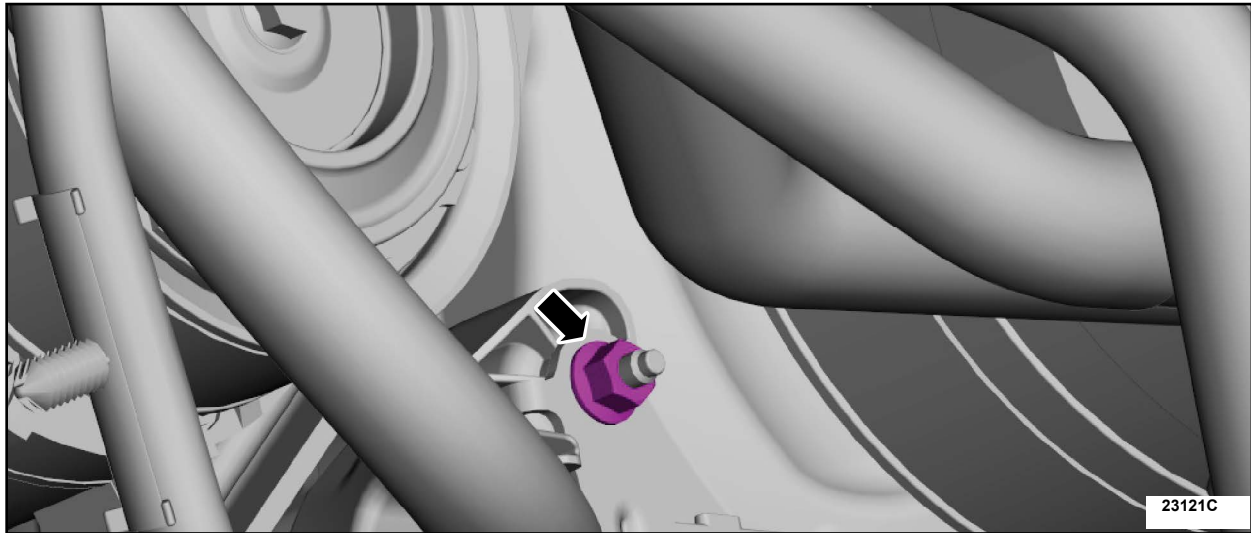

FIGURE 1
6. Remove the Right Hand (RH) valve cover. Follow the WSM procedures in Section 303-01F.
7. Remove the Left Hand (LH) valve cover. Follow the WSM procedures in Section 303-01F.
14. Remove the transmission cooler tube bracket nut. See Figure 1.